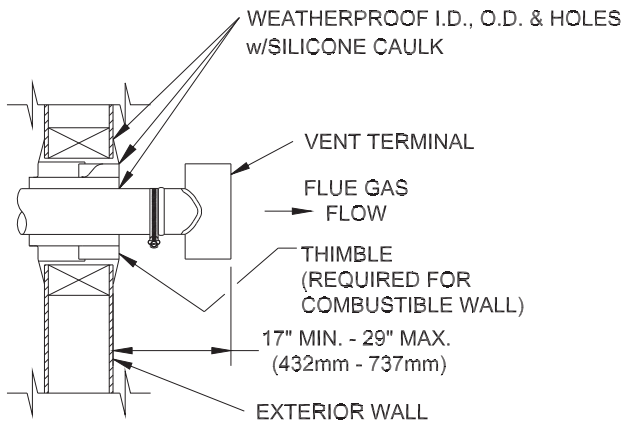

Figure 6.3: Tee Terminal
- In general, the top of the vent terminal must be at least 4ft below eaves, soffits, and other overhangs. If the overhang is unventilated and if the terminal can extend beyond the overhang while meeting the stick-out requirements shown in Figure 6.3 or 6.4, this vertical clearance can be reduced to as little as 12". See Figure 6.9c. Note that flue gas condensate will form under such overhangs and construction in this area must be appropriately protected.
- Terminal must be at least 12" from an inside corner. Exception: if window and/or air inlet is within four (4) feet of an inside corner, then vent terminal must be at least six (6) feet from adjoining wall of inside corner.